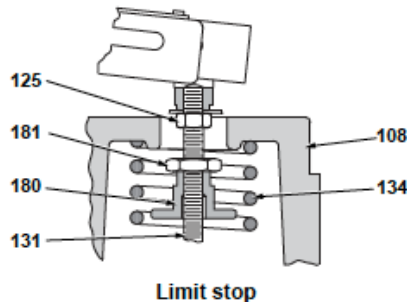

Figure 5
2.4 Handwheel (Figure 5)
2.5 Reversing the Valve Action (Figures 5, 6, 26, 27 and 29)